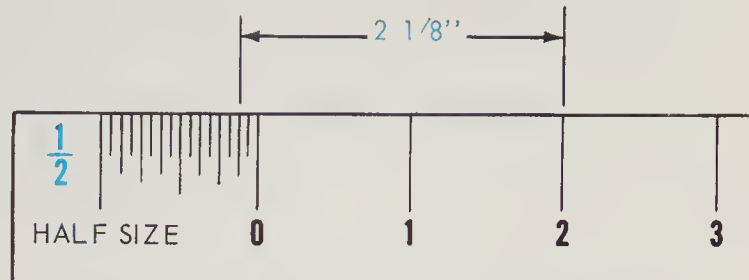

Fig. 10-4. Mechanical engineer's half-size scale.
Observe Fig. 10-4 which illustrates the $1/2$ size scale on the mechanical engineer's scale. If a mechanical engineer's scale is not available, an architect's scale
2. Mark a short vertical dash at the whole number (2 inches in our example), Fig. 10-4.
3. The fractional part of an inch is marked in the subdivided end unit, Fig. 10-4.